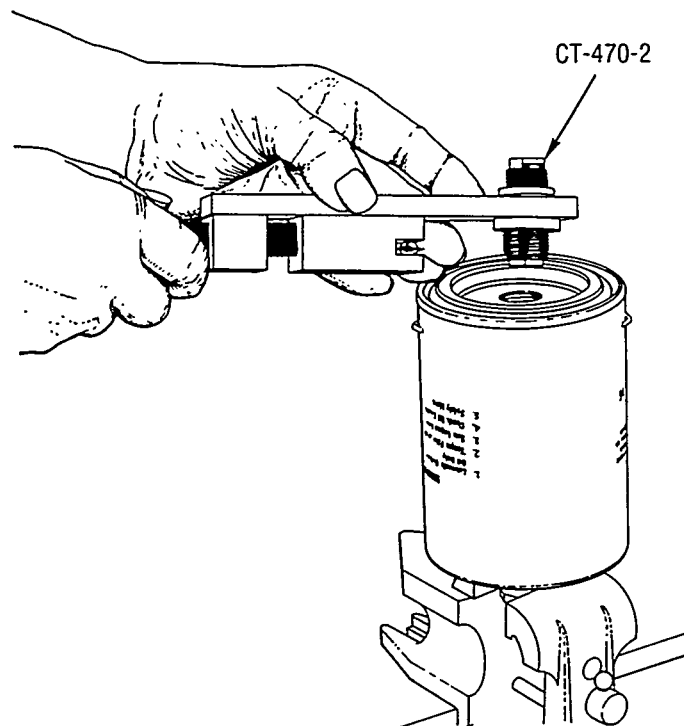

Figure 6. Mounting of Tool - CT-470 on Filter
1. Secure the filter can in a bench vise. When cutting open a female threaded type filter, use the CT-470-2 adapter as illustrated in figure 6. Male threaded type filters can also be opened with the cutter by removing the CT-470-2 adapter from the rotating bushing.